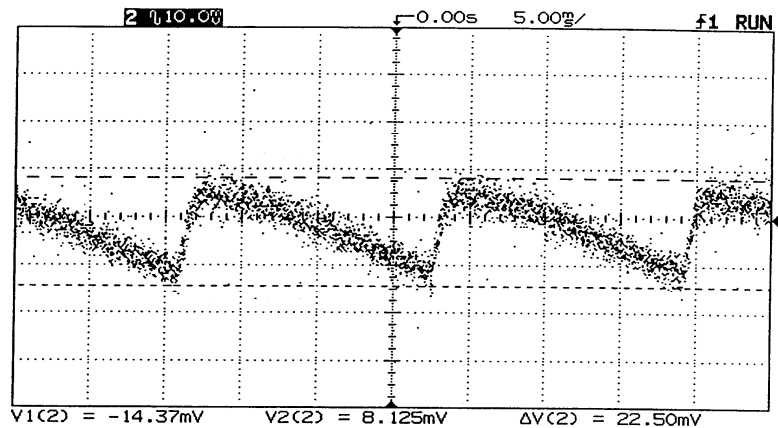

Fig. 8 – AC Ripple Component
2. The peak-to-peak ripple voltage is the amount of variation from a constant DC value that is present in the load voltage. Ideally, in a good power supply this voltage should be zero. Measure the peak-to-peak ripple voltage of the circuit of Fig. 5. To accurately execute this procedure, bear in mind that the ripple voltage can be considered to be an AC signal. Therefore measure the ripple component using an AC coupling. Since the ripple component is small, you may need to adjust the volts/div on the oscilloscope (i.e. expand the scale). Your work should resemble Fig. 8. Print the resulting waveform.